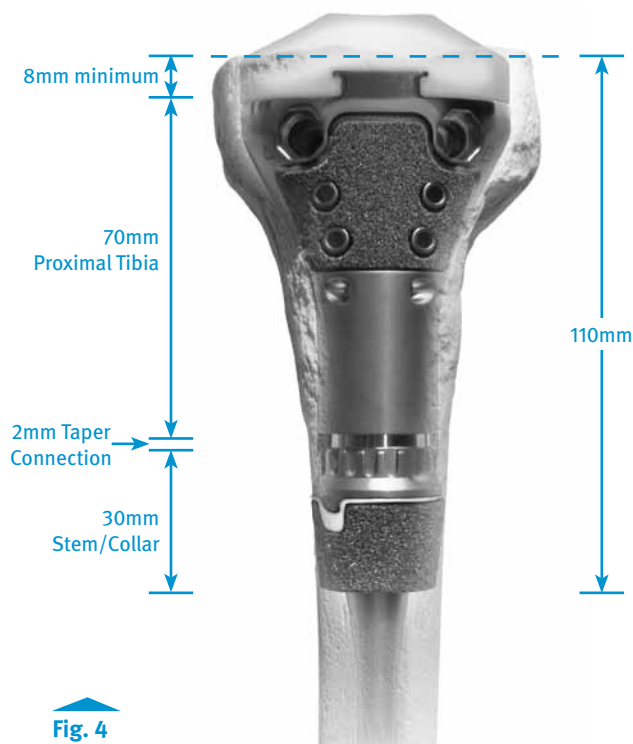

Fig. 4
- Assess bone and soft-tissue quality, and determine the appropriate resection level (**Table 1 & Fig. 4**).